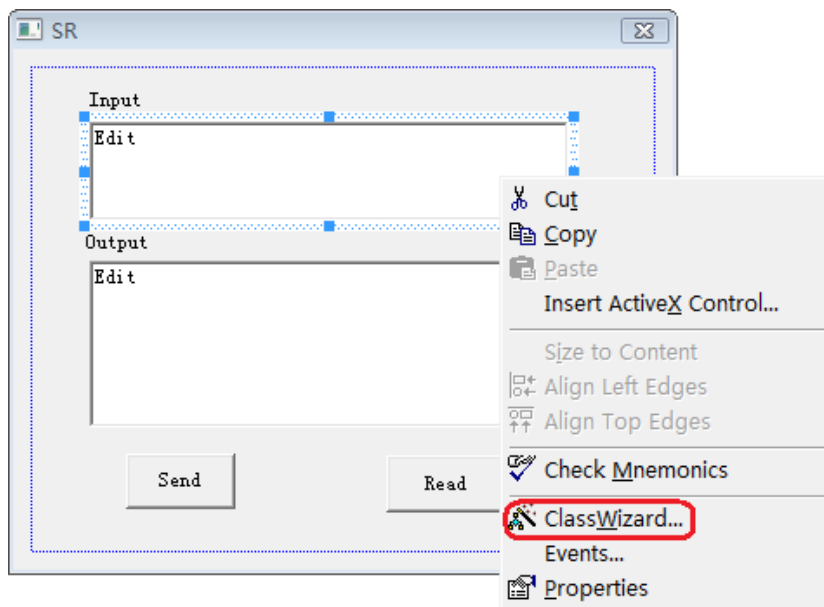
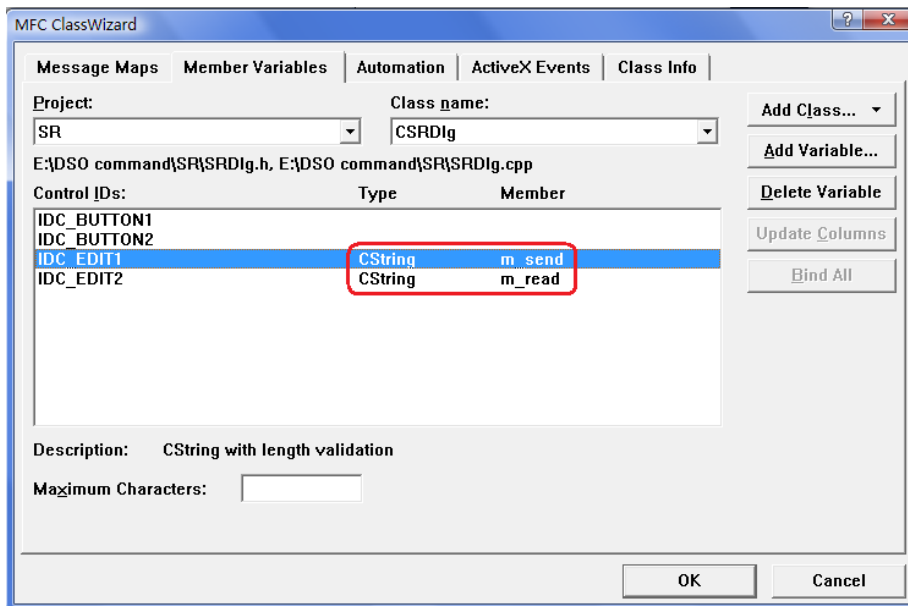

Figure 4-1-5 43
Figure 4-1-6
- (1) Add two Static Text controls respectively named as Input and Output.
- (2) Add two Edit controls, and then add two variables--m_send and m_read to them respectively. See figure 4-1-5 and figure 4-1-6.